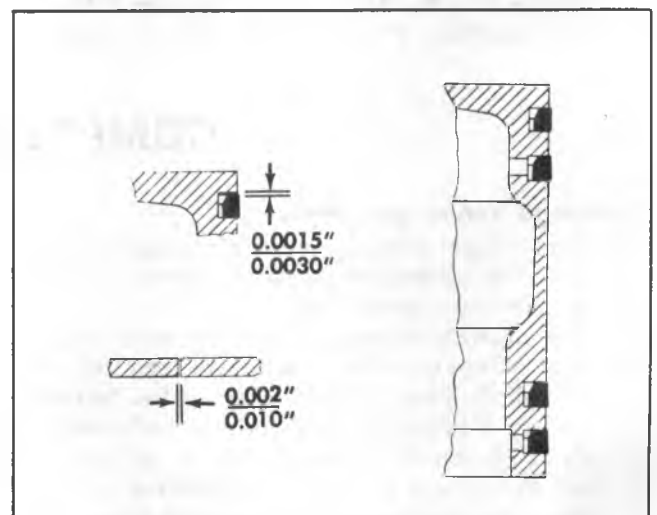

Fig. 12G—Piston Ring Arrangement and clearances 7 1/4 cu. ft. Compressor
1. Clearance between rings and sides of ring grooves in 7-1/4 cubic-foot compressor should be from 0.0015" to 0.0030" as shown in figure 12G. Ring gap should be from 0.002" to 0.010".
3. Install piston rings in grooves of pistons. Rings must be installed in proper location and with pip marks (may be numbered 1 to 5) upward. Refer to figures 12G and 13G for proper clearance dimensions and location of rings on pistons.